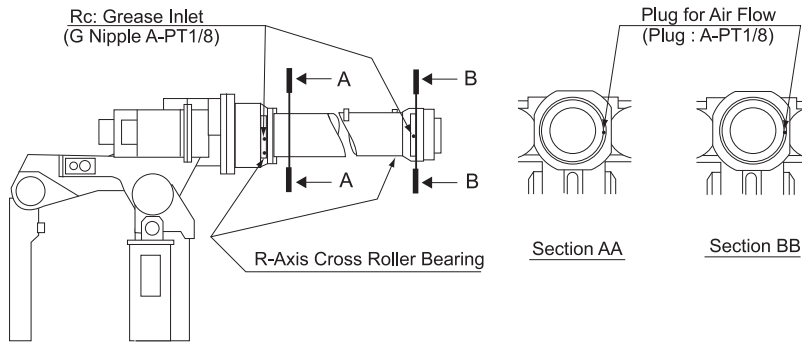

Fig. 28 R-Axis Cross Roller Bearing
1. Remove the plug (A-PT1/8) for air flow . (" Fig. 28 R-Axis Cross Roller Bearing ")